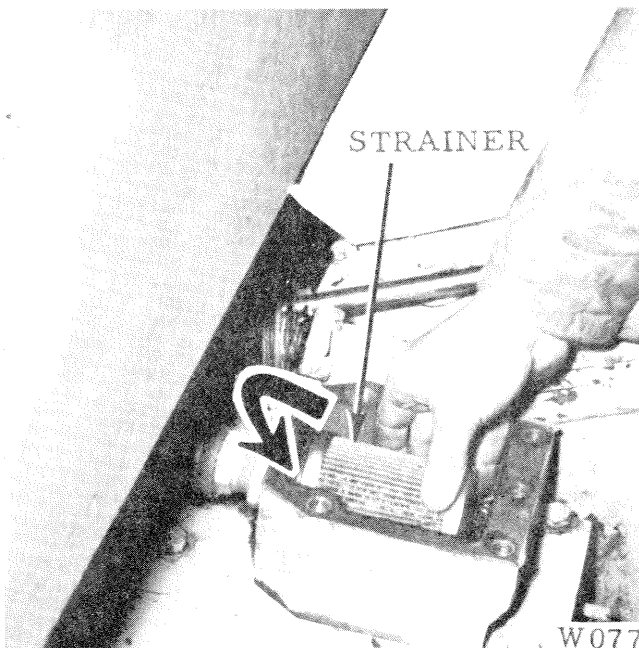

Figure 29
b. If the strainer is on top of the winch, unscrew the cover capscrews. Separate the cover from the intake block. Remove the strainer by turning it counterclockwise. Fig. 29.